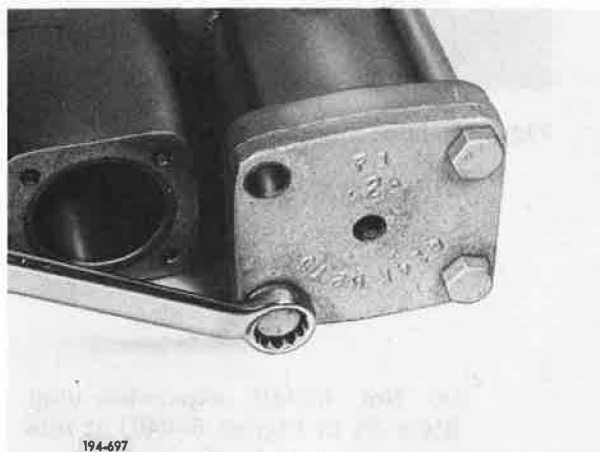

Figure 5-858. Installing Capscrews
15. Install Hi/Direct shift cover capscrews, and tighten to recommended torque. Refer to Torque and Tolerance Table, Item 2. See Figure 5-858.